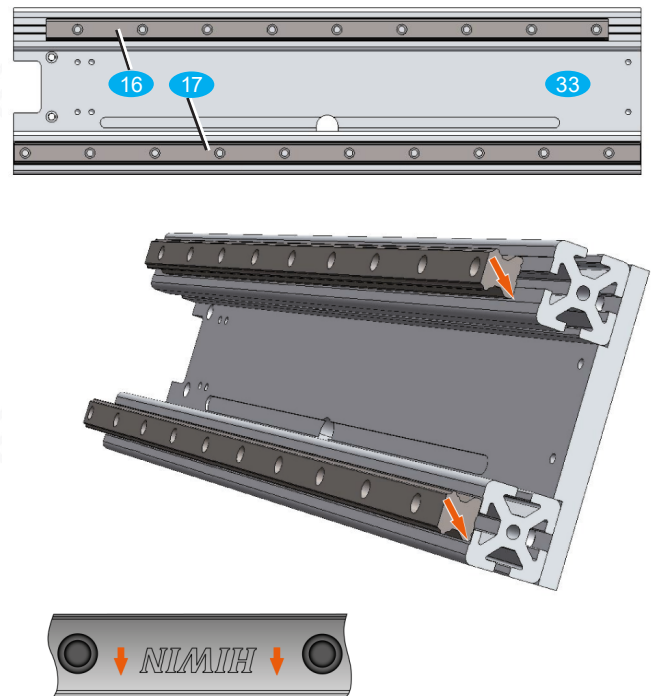

Fig. 10: Reference edges of the linear rails
- Place the linear rails on the profiles of the portal beam **33** in such a way that the reference edges of the linear guides marked with arrows point to the milled stop edges (see Figure 10).